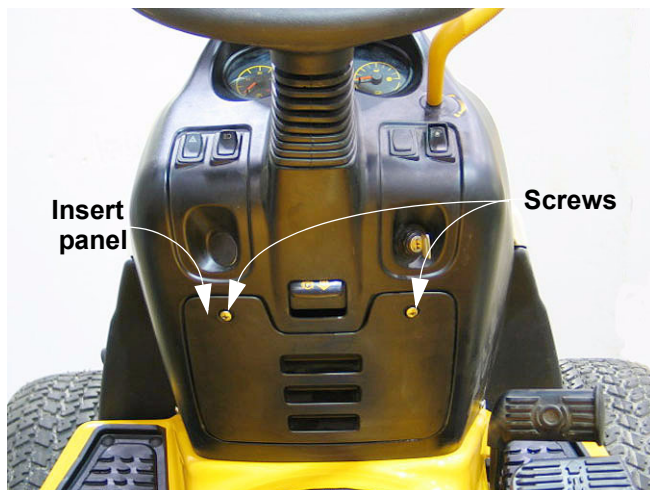

Figure 1.2
- 1.2. Removing the two phillips head screws at the top of the insert panel will allow the panel to be tilted back and lifted out of the dash panel. See Figure 1.2.
- 1.4. The switches can be removed by squeezing the tabs on the short sides of the switch body, and pushing them up through the dash panel. See Figure 1.2.